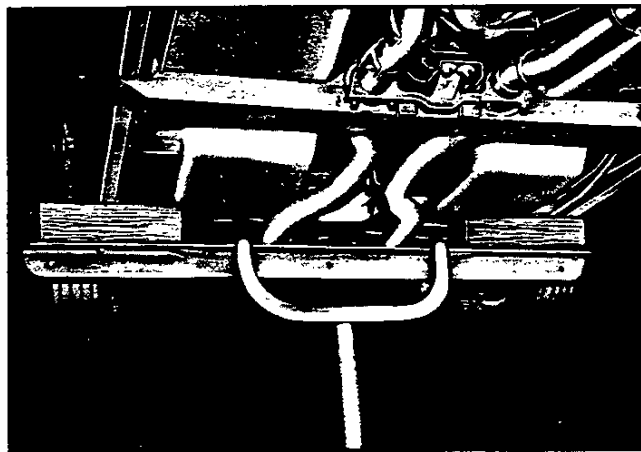

Fig. 6—Frame Lift Adapters—Corvette
- b. If rear axle work is contemplated, use either suspension adapters or drive-on adapters at the front and frame lift adapters as shown in Figure 6. If frame lift adapters are not available, use jack stands.
**NOTE:** Wooden blocks, bolted to a steel beam shown in Figure 6 are necessary to allow beam to clear exhaust system.